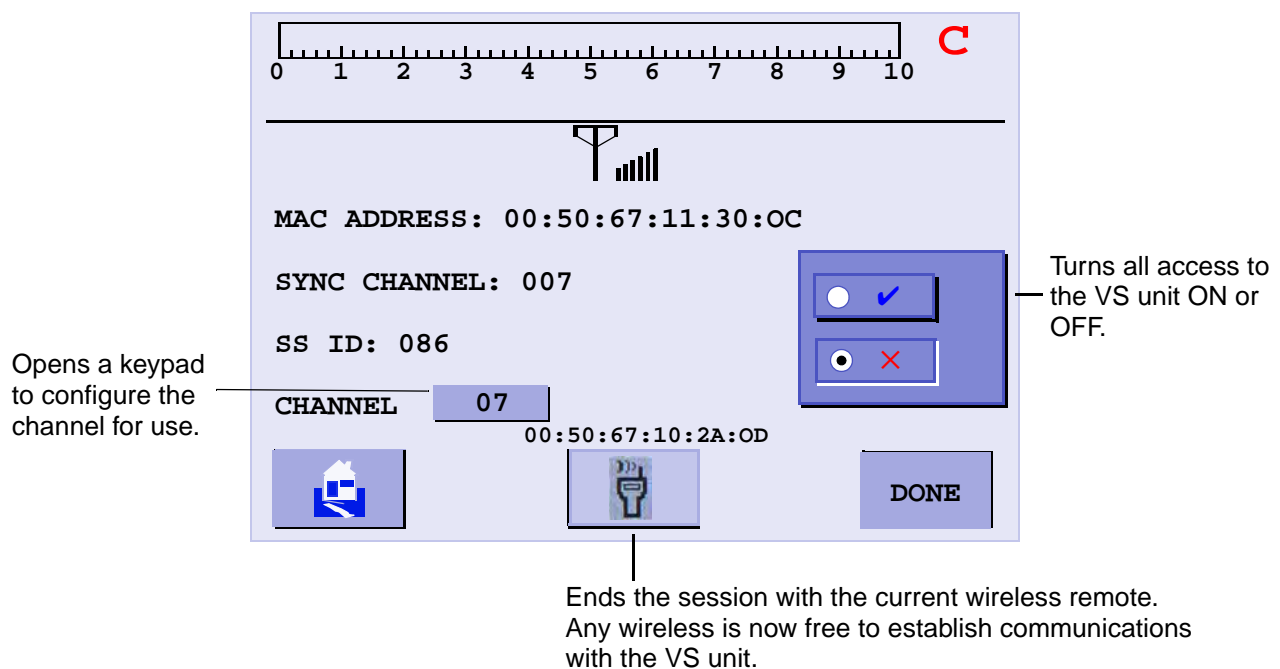

Figure 3-23 Wireless
- ❑ Press the Wireless icon  on the **Maintenance** screen and the wireless screen appears (Figure 3-23).